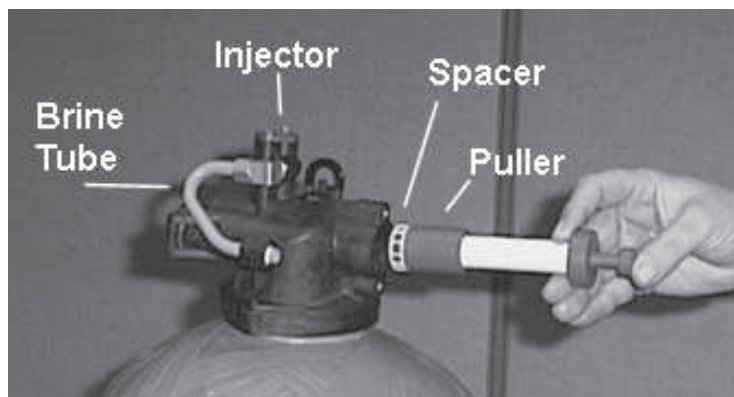

Figure 7
8. Insert the pin end of the spacer tool into the valve body with the pins retracted (button pulled back). Push the tool tight against the spacer and push the button in, (see Figure 7). When the button is pushed in, the pins are pushed out to engage the 1/4 dia. holes in the spacer. Remove the tool from the valve body. The spacer will be on the end. Pull the center button back, the pins will be retracted and the spacer can be removed from the spacer tool.